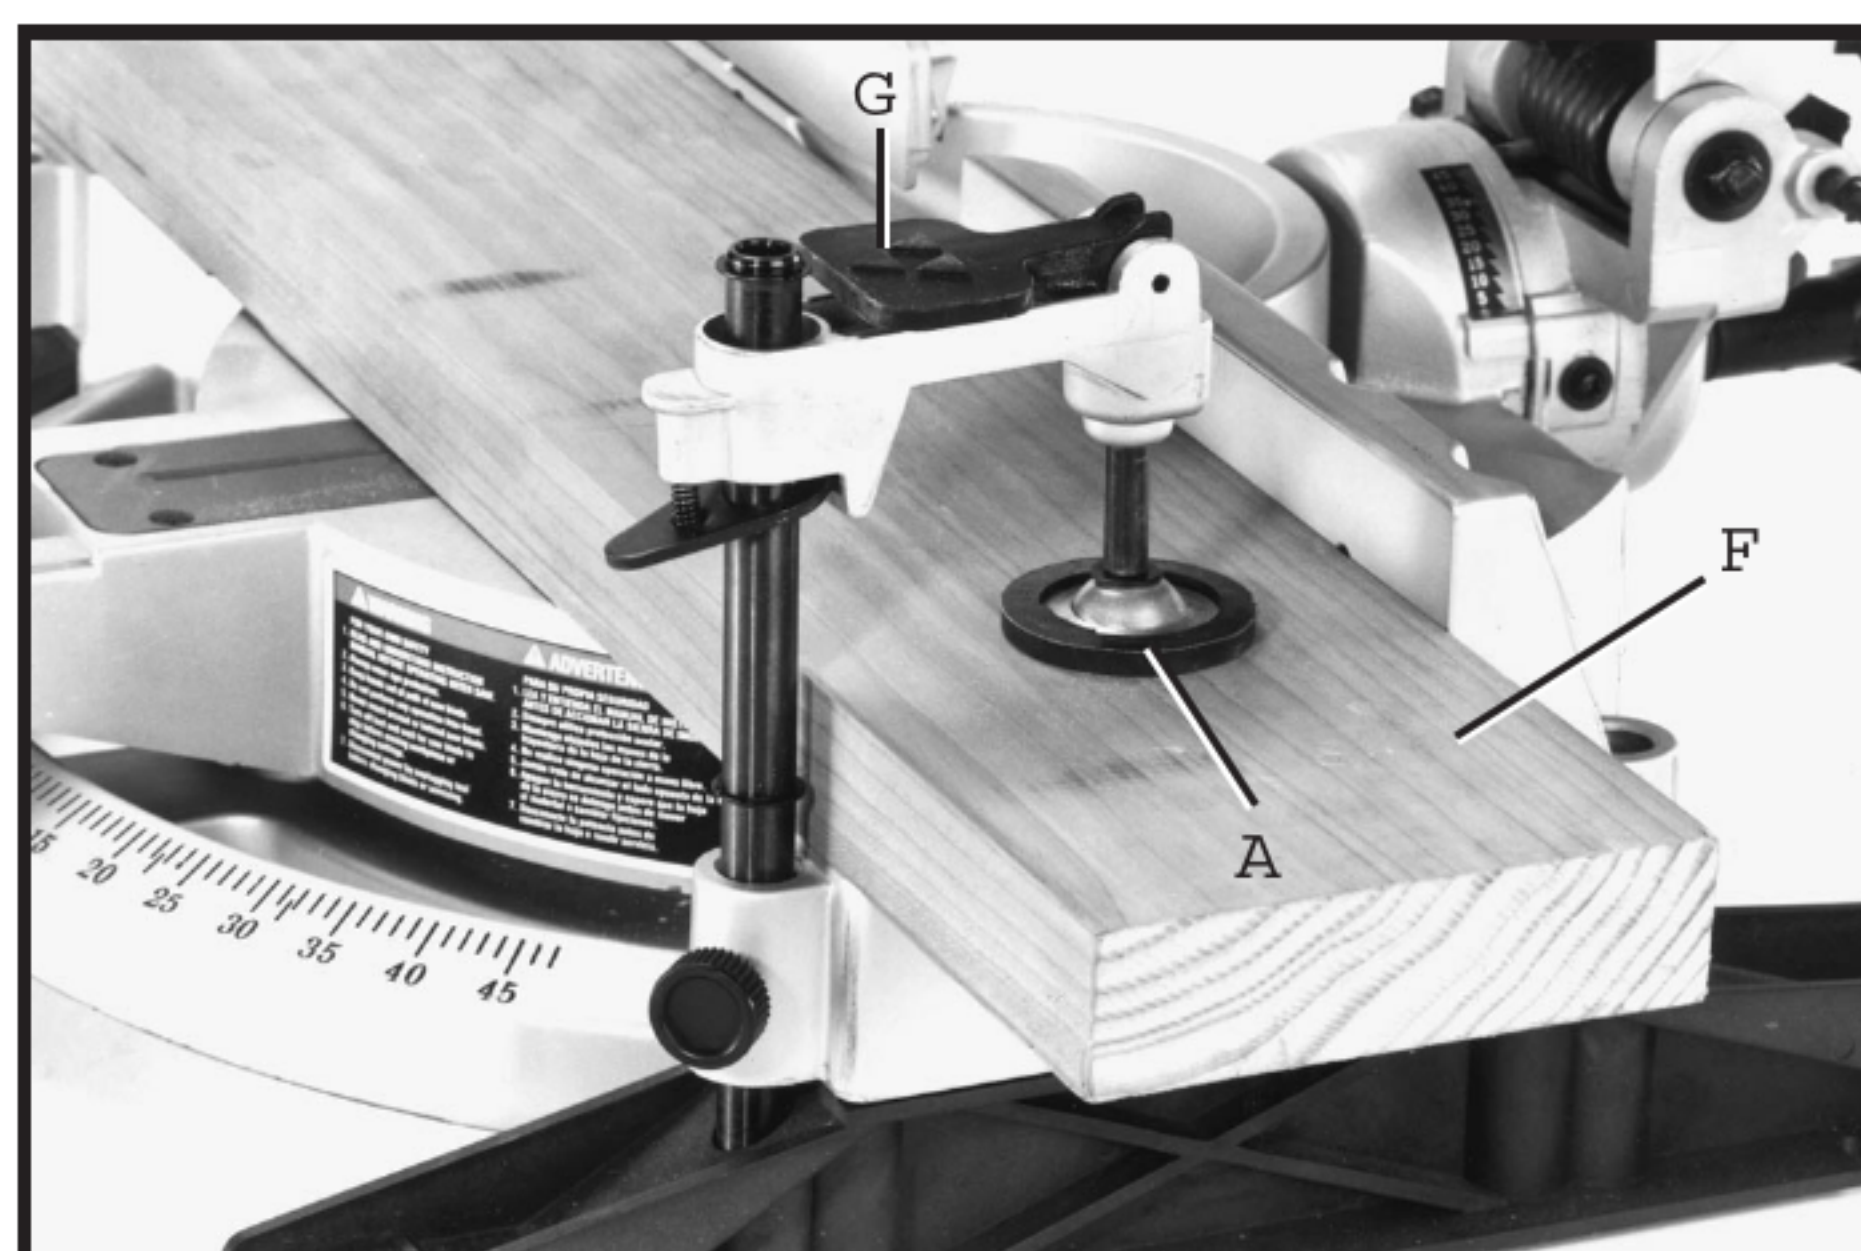

Fig. 26
3. For final clamping of the workpiece (F) Fig. 26, against the table, move cam lever (G) to the rear, as shown. After cut is completed, lift lever (G). This will raise clamp (A) slightly, allowing you to slide or remove workpiece (F).